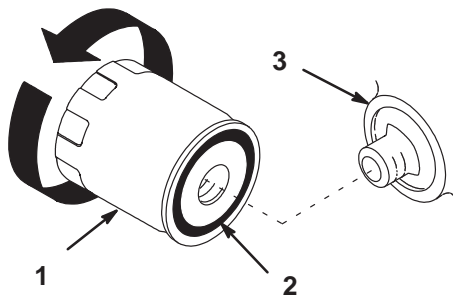

Figure 25
2. Remove the old filter and wipe the filter adapter (Fig. 25) gasket surface.
4. Apply a thin coat of new oil to the rubber gasket on the replacement filter (Fig. 25).
5. Install the replacement oil filter to the filter adapter. Turn the oil filter clockwise until the rubber gasket contacts the filter adapter, then tighten the filter an additional 1/2 turn (Fig. 25).